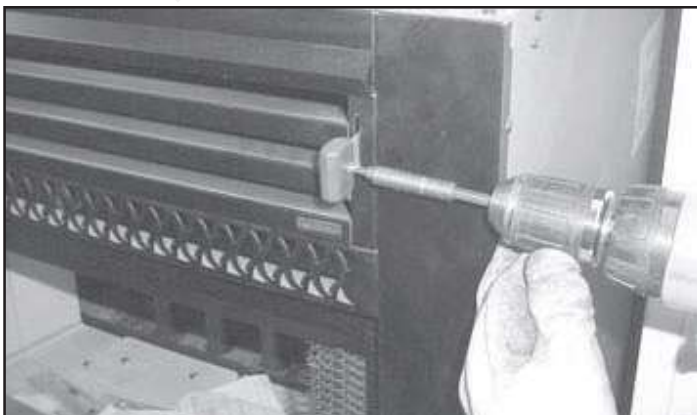

Figure 1 Remove Wooden Knob
- Remove wooden knob from damper control. See Figure 1.